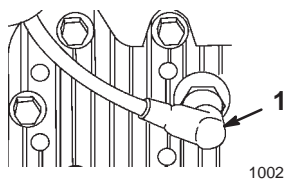

Figure 10
1. Connect the wire to the spark plug (Fig. 10).